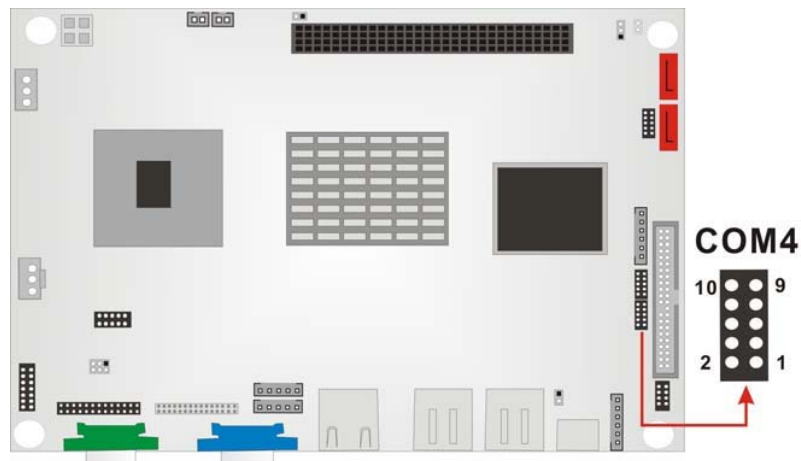

Figure 3-24: COM4 Connector Location
- CN Location:** See Figure 3-24